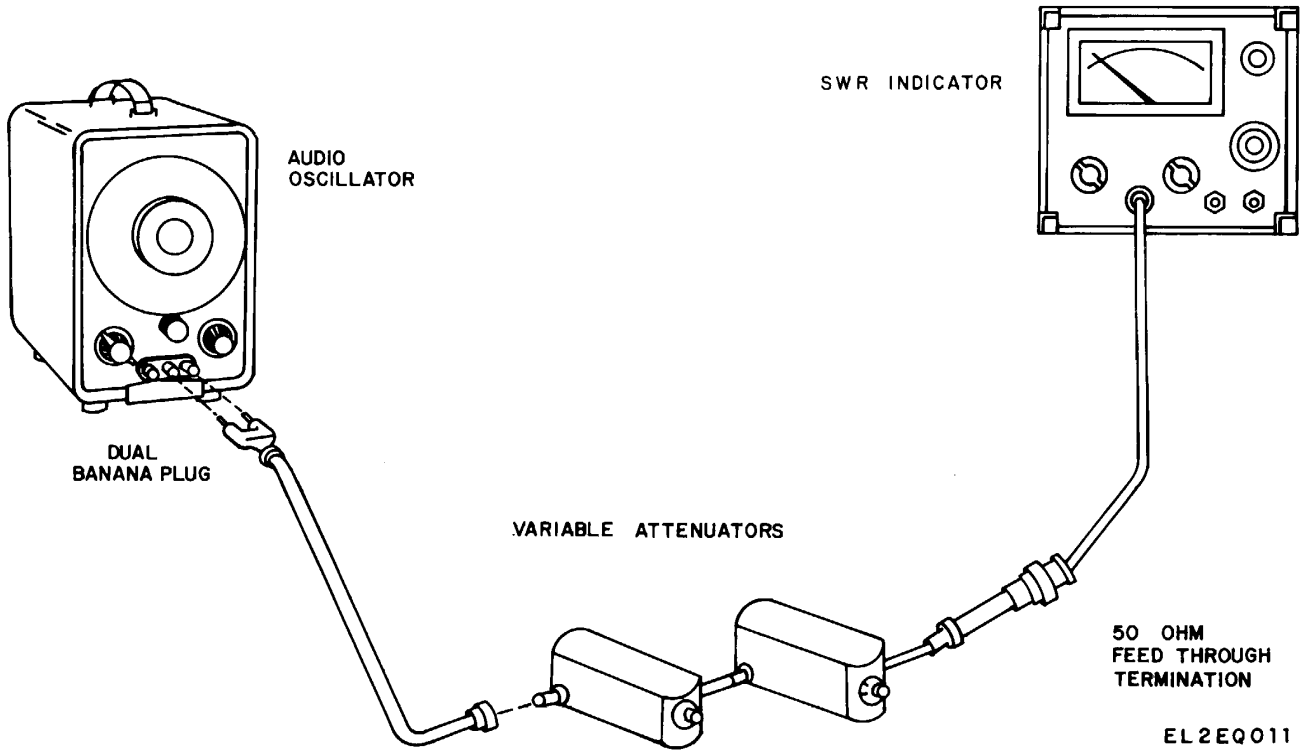

Figure 3-10. Range and expanded range accuracy test setup.
- (1) Signal Generator AN/USM-205.
- (2) Attenuator CN-970/U.
- (3) Attenuator CN-1128/U.
- (4) 50 ohm feed through termination
b. Test Connections and Conditions. Connect the equipment as shown in figure 3-10. Allow sufficient time for equipment to warm up and stabilize.
(4) 50 ohm feed through termination.
b. Test Connections and Conditions. Refer to figure 3-10 for test connections.